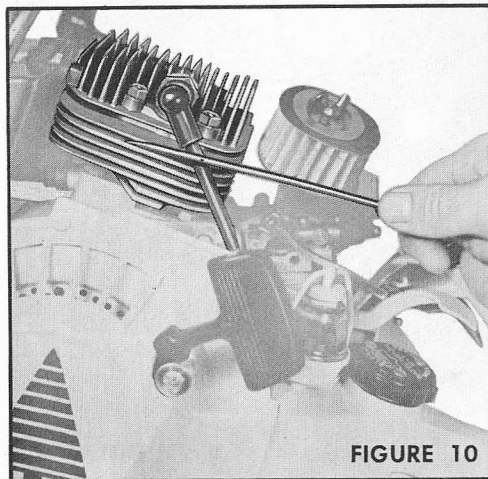

FIGURE 10
1. **CYLINDER AND HEAD FINS:** At least once a week remove cooling shroud and give cylinder head and fins a good cleaning (figure 10). Tighten head nuts if required.